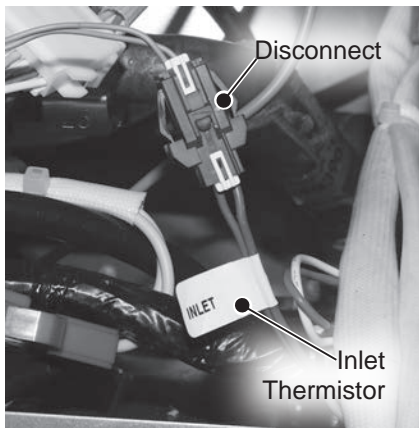

Figure 39 - Disconnecting inlet thermistor
- 15 Locate the inlet thermistor wiring harness and disconnect it. See Figure 39.